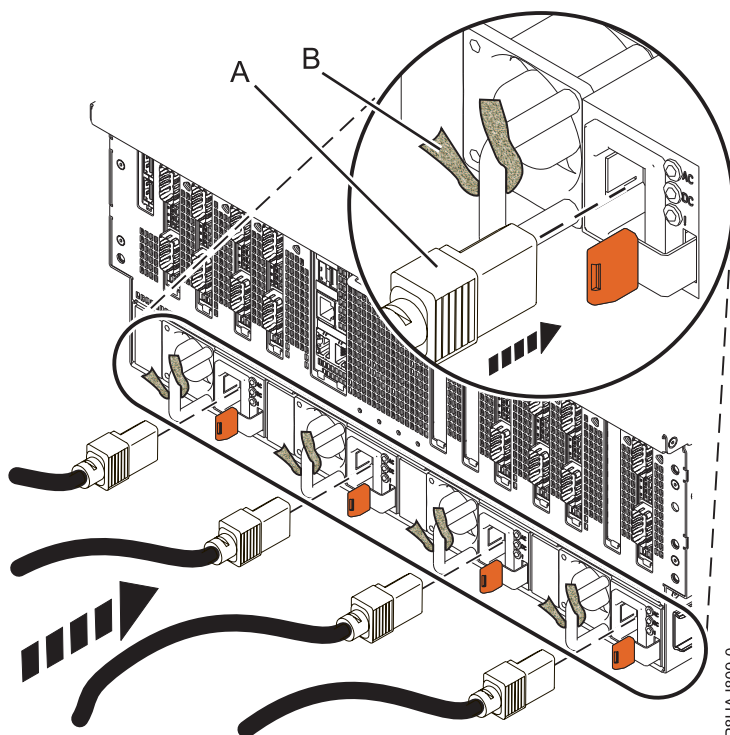

Figure 21. Plugging in the power cords and securing the cables with fasteners
- a. Plug the power cords into the power supplies (A). See Figure 21.
- c. Secure the cord and cables with cable ties or hook-and-loop fasteners (B), as shown in Figure 21.